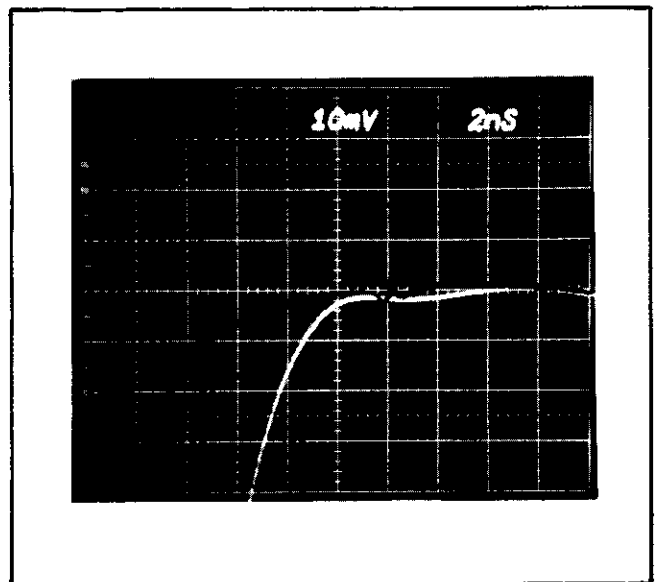

Fig. 3-6. Typical sampling oscilloscope system response curve obtained when performing High Amplitude aberration check (step 13d).
d. Rotate the Time Position control on the 7T11 to align the 50% level of the positive-going pulse with the first-division reference line. Switch to a calibrated, 10 mV/div deflection factor for the 7S11 and use the DC Offset controls to align the top of the waveform with the last horizontal division of the reference graph. The 1 major vertical division aberration limit applies for the High Amplitude signal only during the last 5 horizontal divisions of the reference graph. See Fig. 3-6. Switch to a 5 ns/div sweep rate for the 7T11. While rotating the Time Position control on the 7T11 fully counterclockwise, note displayed signal aberrations in the area of the last 5 horizontal divisions. Aberrations should not exceed 1 major vertical division.